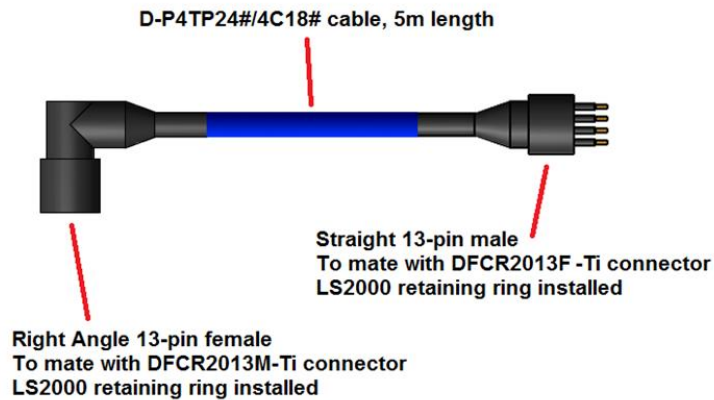

Figure 17 MacArtney 13-pin Cable Details
In addition to the RF cables, each Optical head is also connected to the Electronics via (1) 13-pin MacArtney cable. The 13-pin cables (SubConn D-P-P4TP24#/4C18#) are interchangeable between the two Optical heads. These cables have been custom-molded with a right-angle connector on one end, as shown in Figure 17. The right-angle plug mates to the Optical head and the straight plug mates to the Electronics. Table 2 and Figure 18 describe the connector and cable pin-outs.